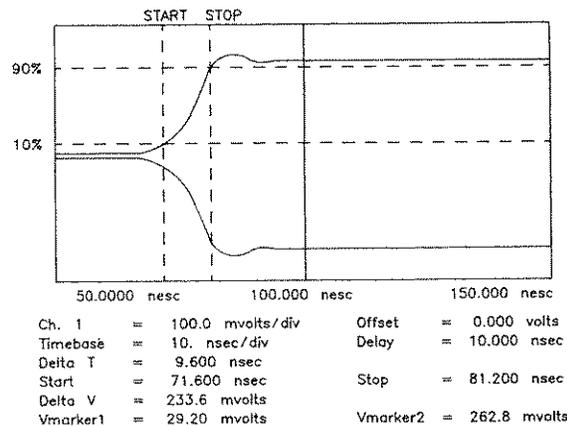

Figure 4-11. Oscilloscope Display
Figure 4-11 shows the RF Pulse as displayed on the oscilloscope. The Delta V markers are the approximate 10% and 90% Levels of the pulse envelope. The reading Δt is the Rise Time.
34. Set the HP 8657B to the frequencies shown in the following Table. For each frequency measure the 10% to 90% Rise Time of the RF Pulse. The Delta V and Delta T Markers will require repositioning after each frequency change. To measure Fall Time will require a Shift Delay of +10 usec minimum on the oscilloscope to view the trailing edge of the pulse (including markers). Refer to Figure 4-11 for an example of the oscilloscope measurement display. The Rise and Fall Time should be within the limits shown in the Table.